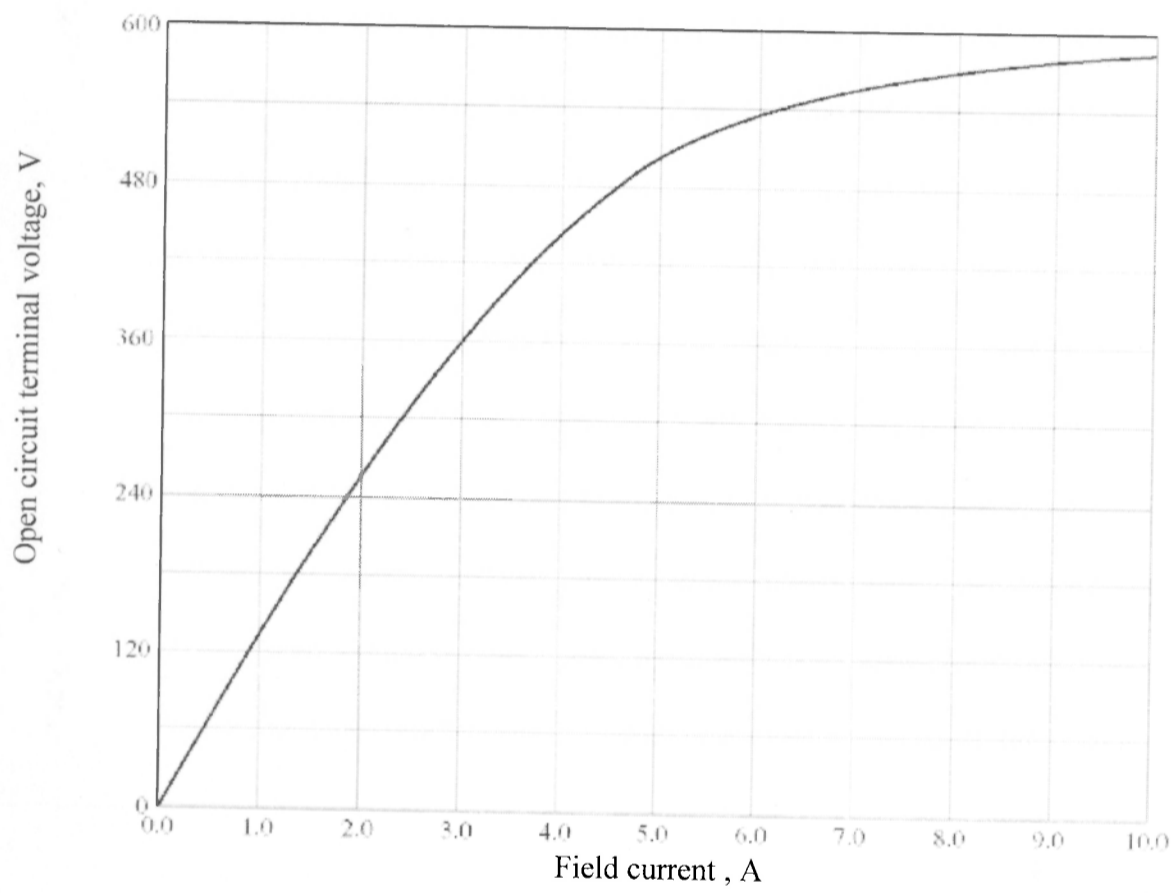

Figure Q4 (b)
- (b) A 480 V, 200 kVA, 0.8 power factor lagging, 50 Hz, two-pole, Y-connected synchronous generator has a synchronous reactance of $0.25 \, \Omega$ and an armature resistance of $0.03 \, \Omega$. Its friction and windage losses are 6 kW, and its core losses are 4 kW. The field circuit has a dc voltage of 200 V, and the maximum field current, I_F is 10 A. The resistance of the field circuit is adjustable over the range from $20 \, \Omega$ to $200 \, \Omega$. The open circuit characteristic of this generator is shown in Figure Q4 (b). Calculate: